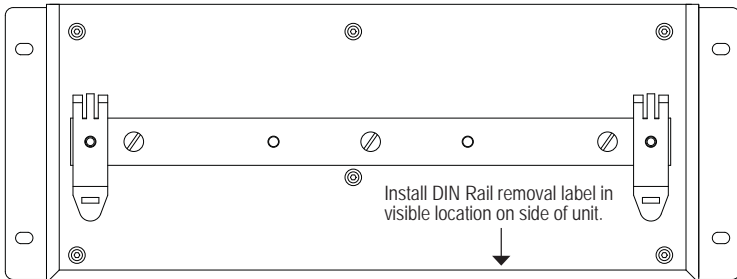

Figure 3-1 DIN Rail Mounting
Mount and securely bolt the controller into place using the four (4) 3/16" diameter mounting holes. A DIN rail mounting kit is supplied with all units, for an optional means of mounting. See Figure 3-1.